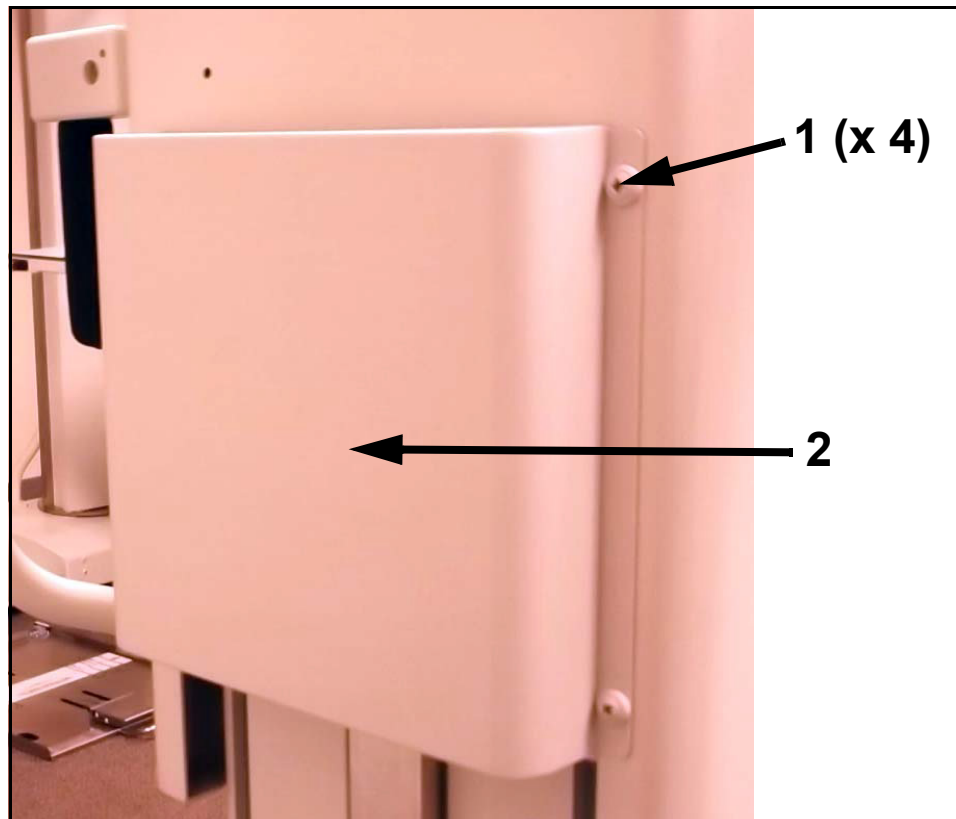

Figure 6-29. Rear Cover
- 1 Unscrew the rear cover screws (1 in Figure 6-29) and remove the cover (2).